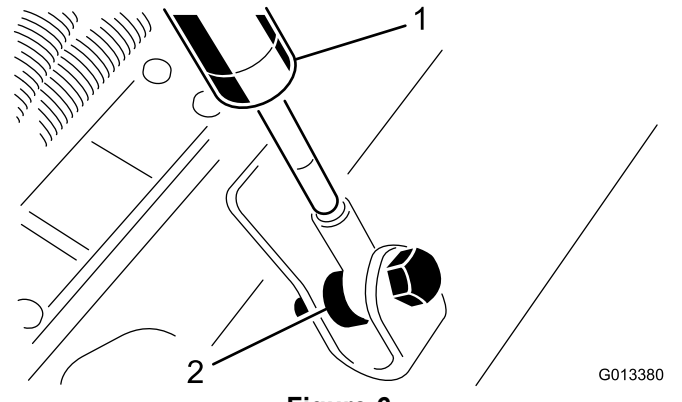

Figure 6
9. Remove the bolts, spacers, and flange nuts securing the other end of the dampers to the cutting unit (Figure 6).